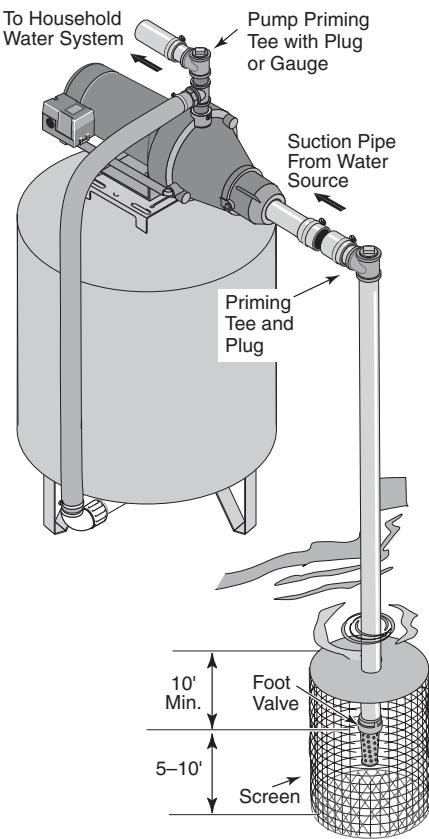

Figure 3: Surface Water Installation
Installation for Surface Water (Figure 3)
2. Assemble a foot valve and suction pipe (see Figure 3). Make sure that the foot valve works freely. Use PTFE pipe thread sealant tape on threaded pipe joints. Protect the foot valve assembly from fish, trash, etc, by installing a screen around it (see Figure 3).